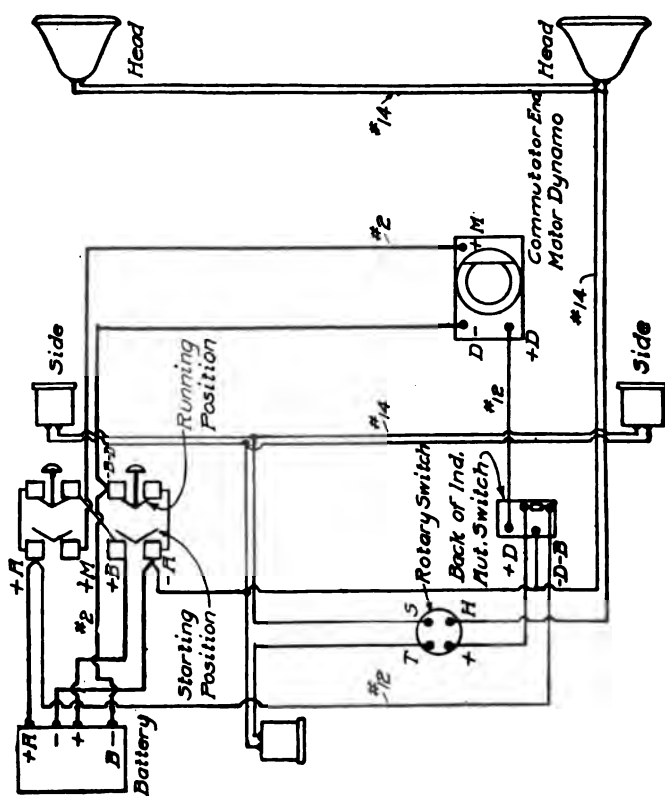

FIG. 325. Wiring Diagram of Splitdorf-Apelco Twelve-volt Single-Unit Two-Wire System
**Wiring Diagram.** As the lamps are run on 6 volts, the 6-cell battery is connected as two units of 3 cells each for lighting, and these units are connected in series-parallel for charging, as the dynamotor produces current at 6 volts. The remaining details of the connections will be clear in the wiring diagram, Fig. 325.